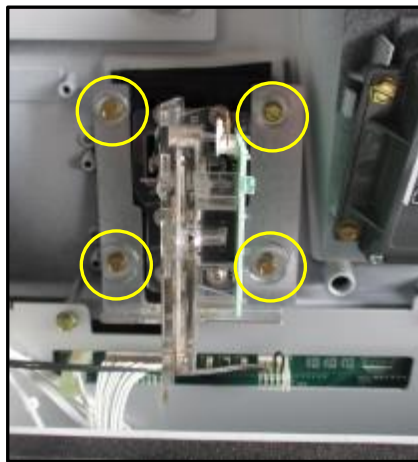

Fig 1.9a – Encore 500S Location of Card Reader plate screws
11. Remove and discard the four sheet-metal screws that fasten the card reader plate to the door (Encore 500S: #6; Encore 700S: 5/16") and remove the card reader and plate from the dispenser door. The card reader plate can be discarded. It will not be re-installed. (Fig 1.9a and Fig 1.9b)